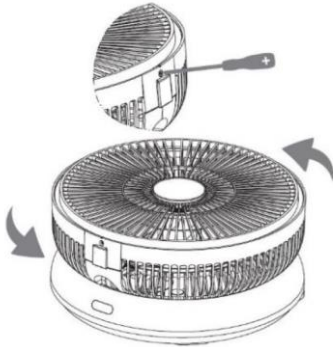

Figure 9
- Locate the screw at lower part of fan grille and remove it with a Philips head screwdriver. Hold the front grille and turn anticlockwise to dismantle it (Figure 9).